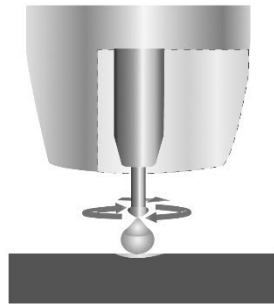

Fig. 16
4. The pinch causes the forming droplet to separate and fall towards the now creating weld pool (Fig. 16).